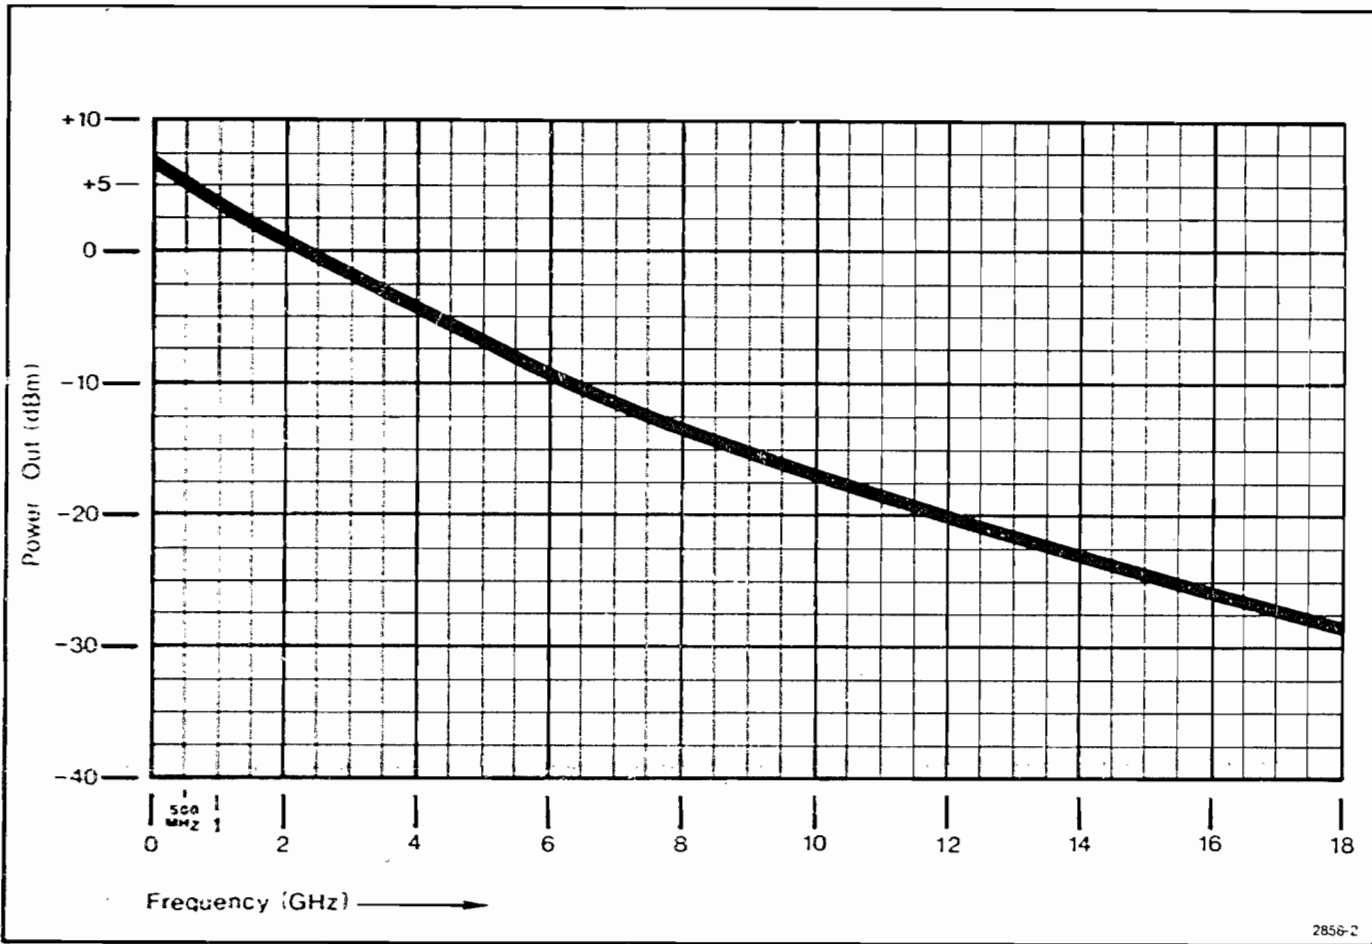

Fig. 1-1. Typical output characteristics of the Microwave Comb Generator.
1. **Frequency Response.** Figure 1-1 is a graph illustrating the typical output versus frequency characteristics of the Comb Generator. Since the output lines decrease at a  $1 \div N$  rate, a displayed spectrum on the analyzer should show the same characteristics. Any radical (10 dB or more) change of adjacent lines, or a flat display, are indications that the frequency response of the instrument is probably out of specifications.